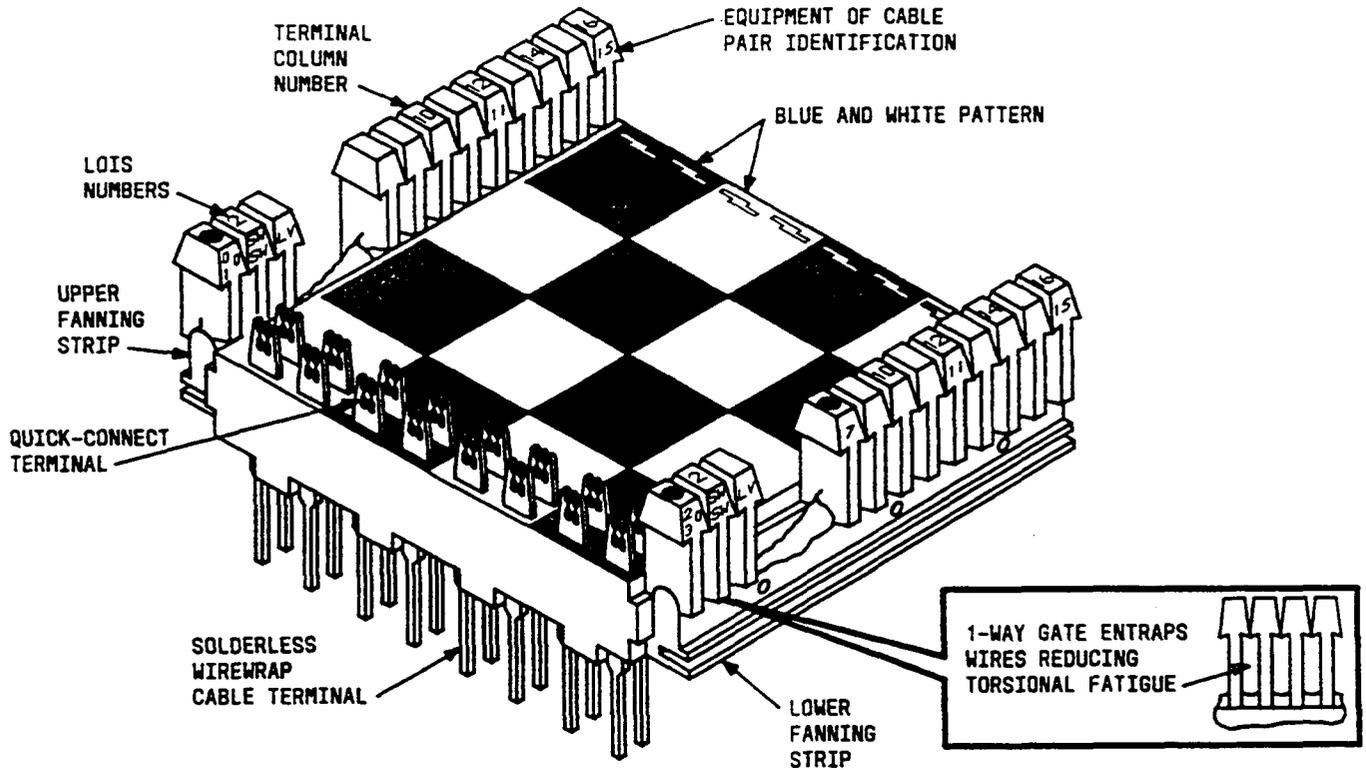
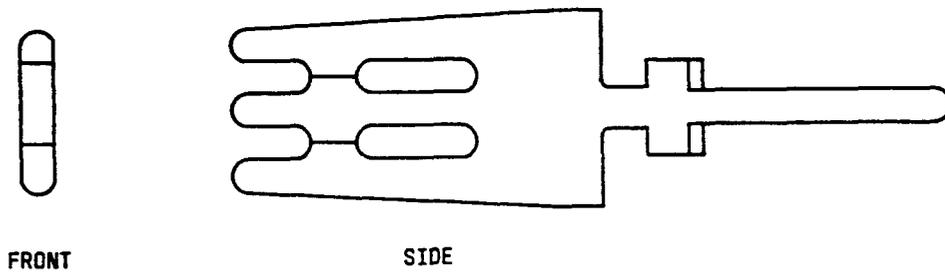

Figure 10—112-Type Connecting Block Features
Figure 11—Views of Quick-Clip Terminal Used on 112-Type Connecting Block
4.11 Figure 10 shows the features of the 112-type connecting block; Figure 11 shows the bifurcated insulation displacement-type, quick-clip terminal; and Table B lists the various 112-type connecting blocks in application order beginning with tie pairs.